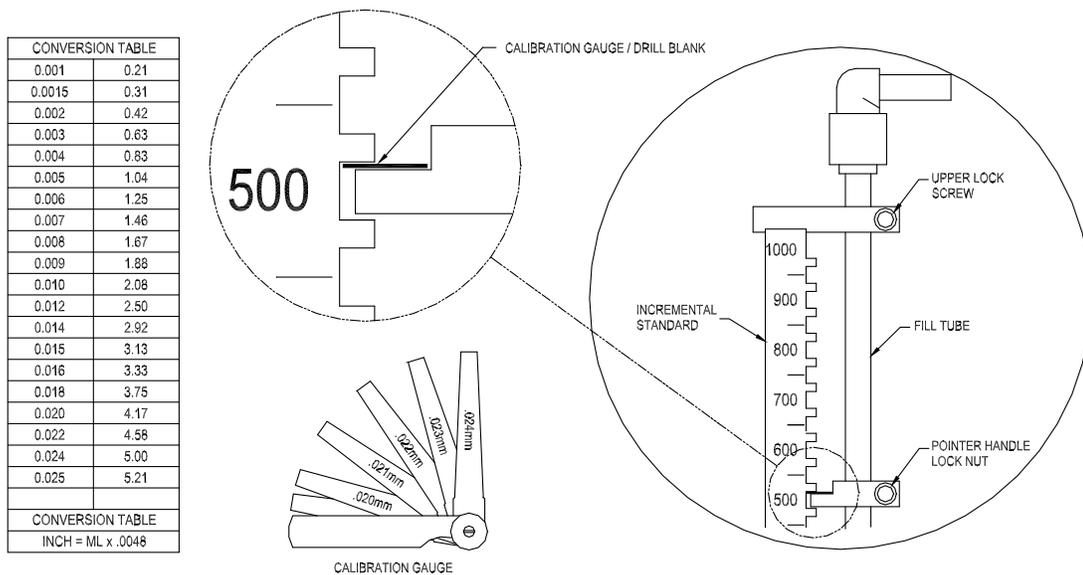

Figure 6-1
3. Fine adjustment is accomplished by accurately adjusting the pointer position on the fill tube (see figures 6-1 and 6-2). The pointer must be moved approximately 0.0048 in. per mL of volume delivery change.
2. Using the calibration gauge (p/n 91-902-045), select a size which corresponds with the required volume change [Volume Change X .0048] or refer to the conversion chart in figure 6-1.
3. Place the calibration gauge between the pointer and the upper side of the incremental standard notch (see figure 6-1).
See figures 6-1 and 6-2.